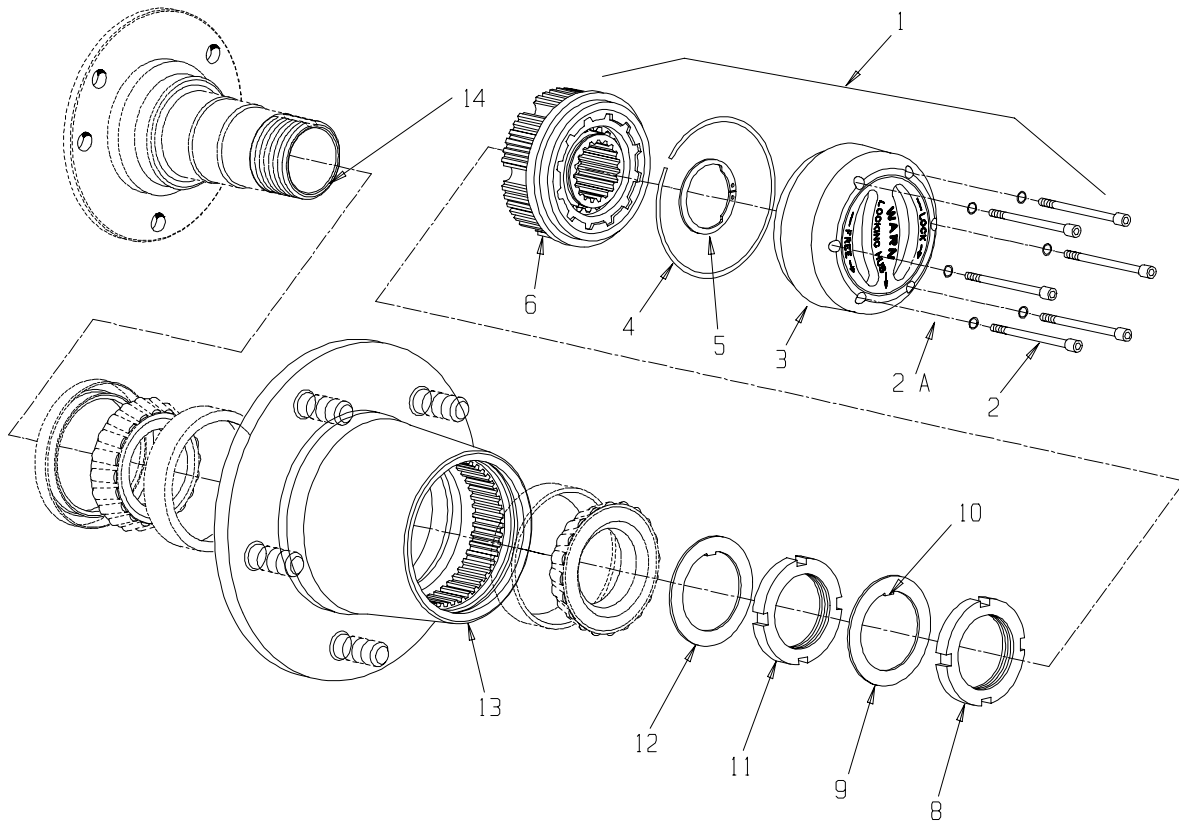

Figure 2. Front wheel hub conversion kit. Parts not included in kit are drawn with dashed lines.
This sheet provides guidelines to install the WARN Front Wheel Hub Conversion Kit (Figure 2). There are NOTES, CAUTIONS, and WARNINGS which should be followed during installation to avoid possibility of personal injury or damage to the vehicle. During installation, standard safety precautions and equipment should be used where appropriate. Because the skill and experience of the installer and the tools used can vary widely, it is impossible to anticipate all conditions under which this installation is made or to provide cautions for all possible hazards. If your installation varies from the instruction, you must be completely satisfied that your safety or the operation of the vehicle will not be compromised.
**PARTS LIST (included in kit) (Refer to Figure 2 for Item #)**
9. Press or drive the studs into holes in wheel hub (Figure 2, Flag 13).
3. Place bearing washer (Figure 2, Flag 12) on spindle.
4. Thread inner nut (Figure 2, Flag 11) on spindle.
**NOTE: Align tab on washer with spindle keyway (Figure 2, Flags 10 and 14).**
1. Separate body assembly from cap assembly (Figure 2, Flags 6 and 3).
2. Install body assembly (Figure 2, Flag 6) into wheel hub.
3. Install axle retaining ring (Figure 2, Flag 5) using snap-ring pliers.
4. Install large lock ring (Figure 2, Flag 4) into groove in wheel hub.
**NOTE: Dial hublock cap (Figure 2, Flag 3) to FREE position.**
6. Align holes on cap using one socket head cap screw (Figure 2, Flag 2) as a pilot.